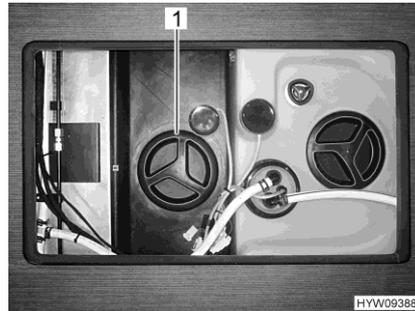

Fig. 210 Cleaning opening (waste water tank)
- Open the cleaning opening (Fig. 210,1) on the waste water tank and the drain cock.